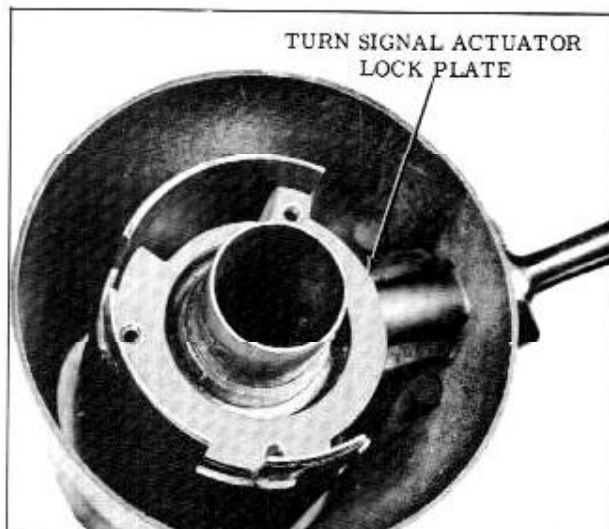

Fig. 4-23 Activator Lock Plate Position
16. Position turn signal actuator lock plate over shift tube and inside the mast jacket. (Fig. 4-23) Position thrust washer on steering shaft and against shift tube.